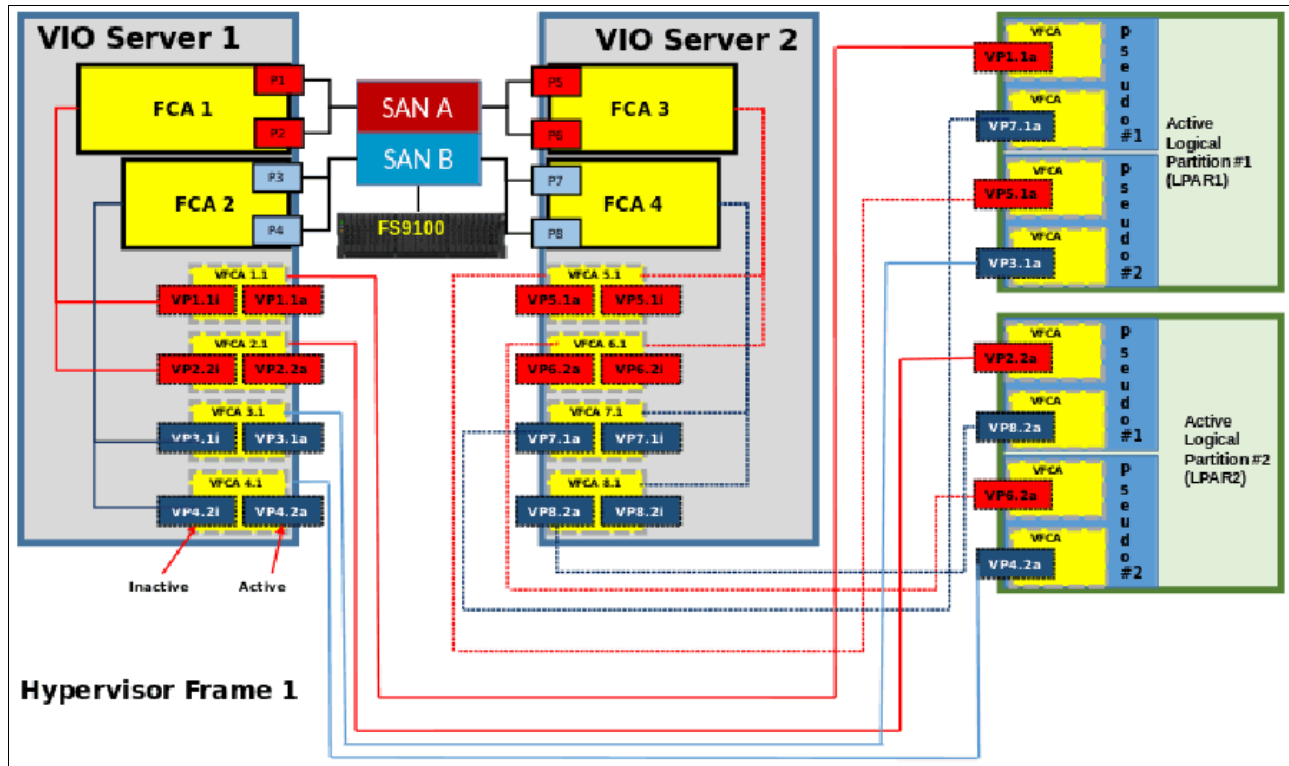

Figure 2-31 LPARs SAN connections
- ▶ Create a pseudo host in IBM Spectrum Virtualize host definitions that contain only two virtual WWPNs (one from each fabric), as shown in Figure 2-31.
Figure 2-31 shows a correct SAN connection and zoning for LPARs.